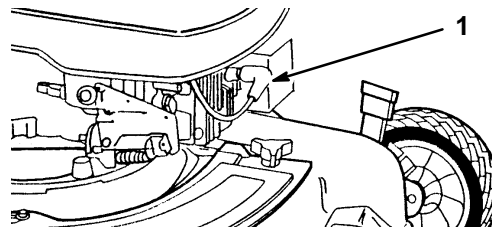

Figure 7
4. Connect the spark plug wire, if disconnected (Fig. 7).